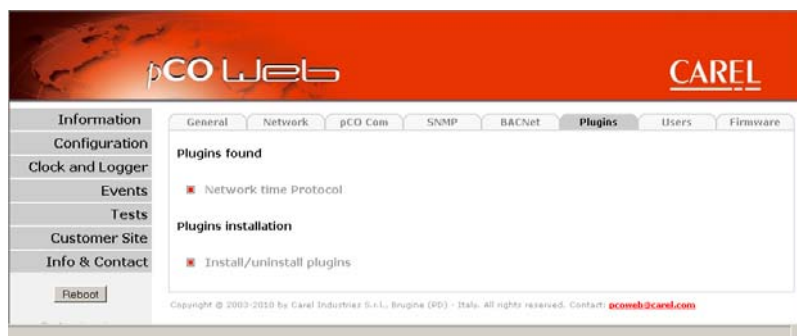

Figure 9.r – Plugin page after having installed “NTP”
6. Set the parameters for the Plugin installed, clicking the “Network Time Protocol” link (for the “NTP” Plugin, the configuration page is shown in Figure 9.s).